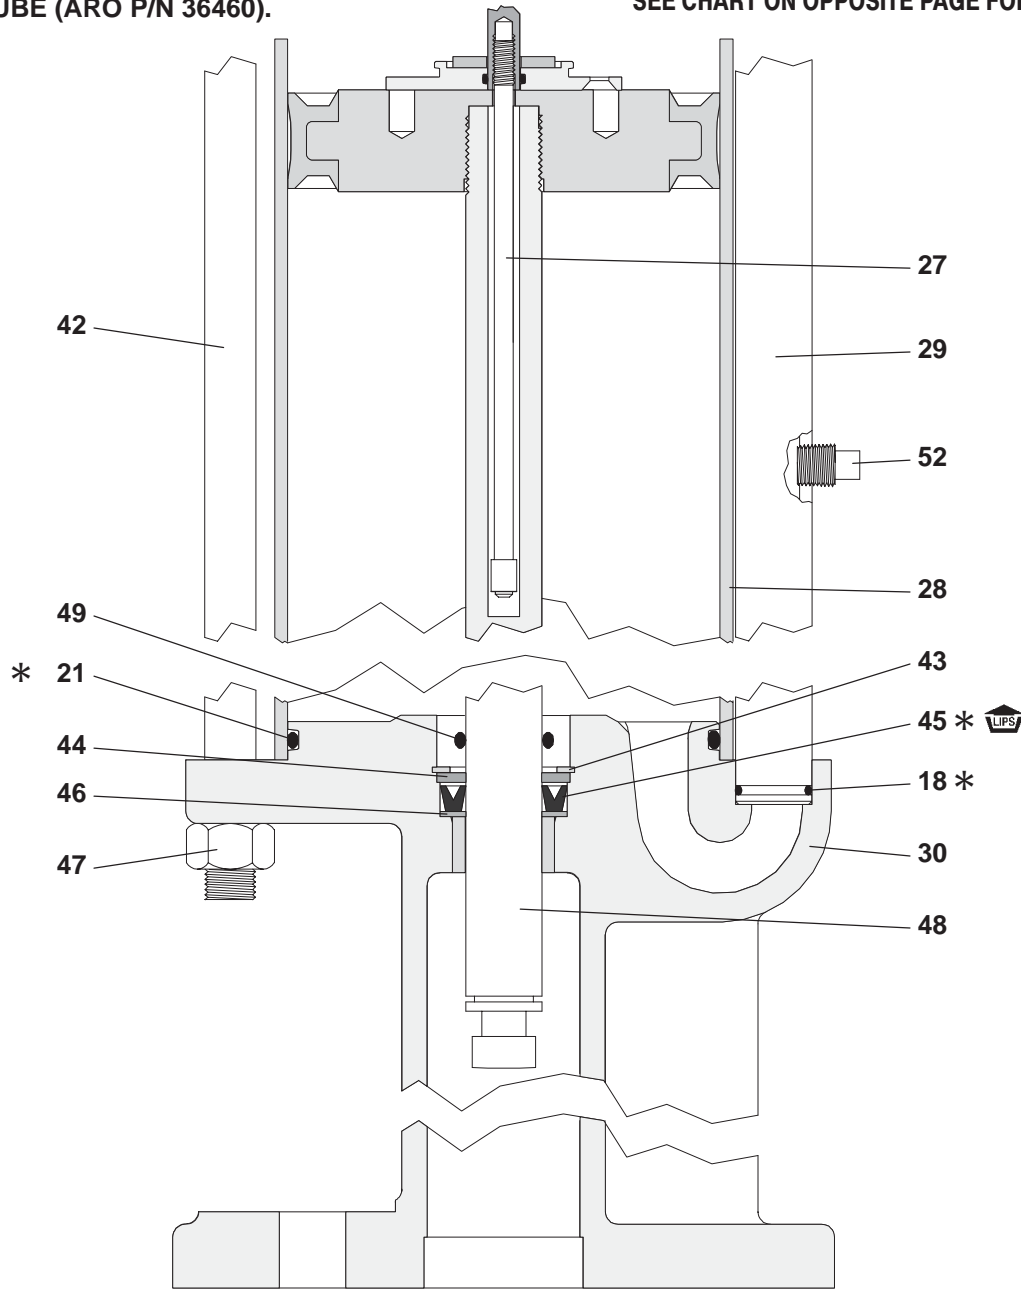
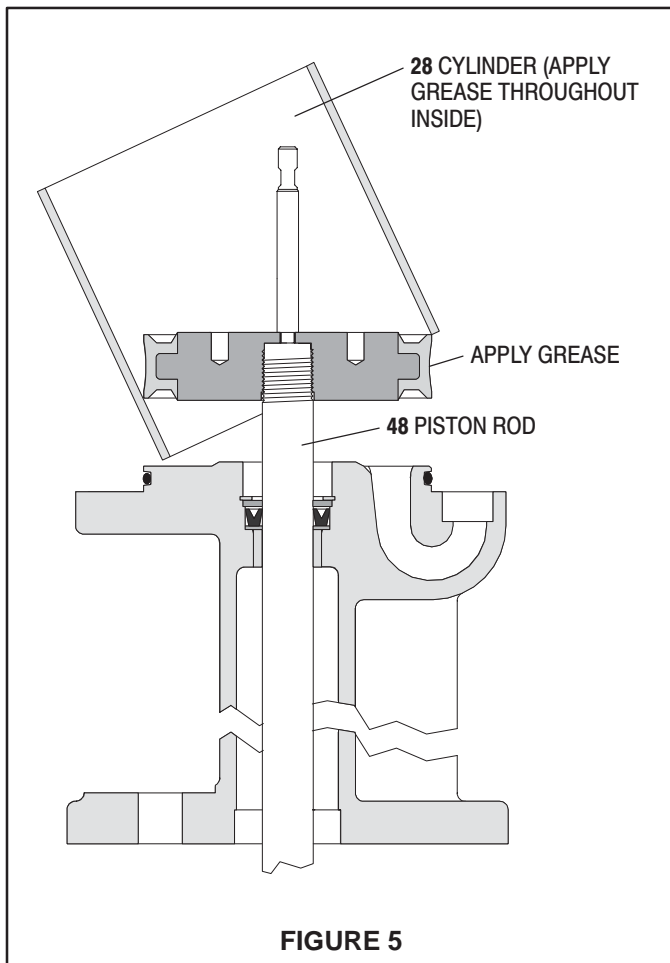

FIGURE 4
FIGURE 5
21. Remove (19) head assembly and place on the workbench with (8) cap side down. This action will allow (40) washer to fall out of its cavity.
22. Remove (21) "O" ring from (19) head assembly.
23. Remove four (22) screws from (39) gland, permitting gland to be removed from (19) head assembly.
24. Remove (16 and 41) "O" rings from (39) gland.
25. Remove (29) tube assembly from (30) base.
26. Remove two (18) "O" rings from (29) tube.
27. Remove (28) cylinder from (30) base. Usually during this step, the (24) piston and (48) piston rod will remain in (28) cylinder.
28. From (30) base assembly (there are 2 types):
- Type 1 (see figure 4, above): Remove (43) snap ring, (44) washer, (45) "U" cup and (46) washer.
2. Clean the threads on (27) rod assembly and put the threaded end thru (24) piston assembly.
3. Hold (27) rod assembly below threads with locking type pliers. After applying Loctite 271 to the threads, attach (36) extension rod and draw up tight, using the wrench flats provided on (36) extension rod.
**NOTE: Do not mar or damage the surface of (36) extension rod.**
4. Place the "machined shoulder" end of (27) rod assembly into the hole in the end of (48) piston rod. After applying Loctite 271 to threads, secure (48) piston rod into (24) piston assembly and tighten to 50 - 60 ft lbs, using provided wrench flats on (48) piston rod.
**NOTE: Do not mar or damage the surface of (48) piston rod.**
5. Install (21) "O" ring on (30) base assembly.
6. On type one (30) base assembly (see figure 4, page 5), install (46) washer, (45) "U" cup (lips up), (44) washer and (43) snap ring. On type two (30) base assembly (see figure 10, page 8), install (49) "O" ring.
7. Push (48) piston rod thru (30) base assembly, being careful not to damage the lips of (45) "U" cup or (49) "O" ring.
8. Grease the inside of (28) cylinder and fill the area between the lips of (24) piston assembly with grease, then place (28) cylinder over (24) piston and rod assembly (see figure 5 below).